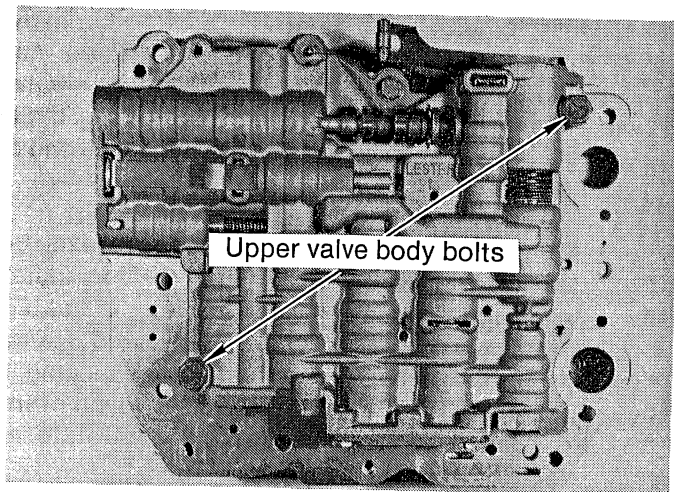

FIGURE 4
STEP 6. Lay the valve body on the bench with the filter side down. Remove the two upper $\frac{1}{4}$ " bolts with a $\frac{7}{16}$ " wrench. (See Fig. 4)
STEP 19. Turn valve body over and install the two long 1/4" bolts. (See Fig. 4) Tighten to 80-120 in.-lbs. Also tighten all valve body and end plate bolts to 20-40 in.-lbs. in this sequence: one or two long hold down bolts, eight valve body bolts, end plate bolts. All except Pinto: Install check valve and spring. Face of valve goes into casting first with spring on top. Tab on filter will hold valve assembly in place. The screen (filter) supplied will fit most C-4 transmissions. Bronco's and Pinto-Mustang II require special screens. If you need one of these special screens you can purchase one at your local auto parts store. Install new screen. (Note: Some C-4 transmissions are factory equipped with an extension tube as part of the filter. Install tube onto new screen.) Align screen with casting and install bolts and tighten to 20-40 in.-lbs. The valve body is now assembled.